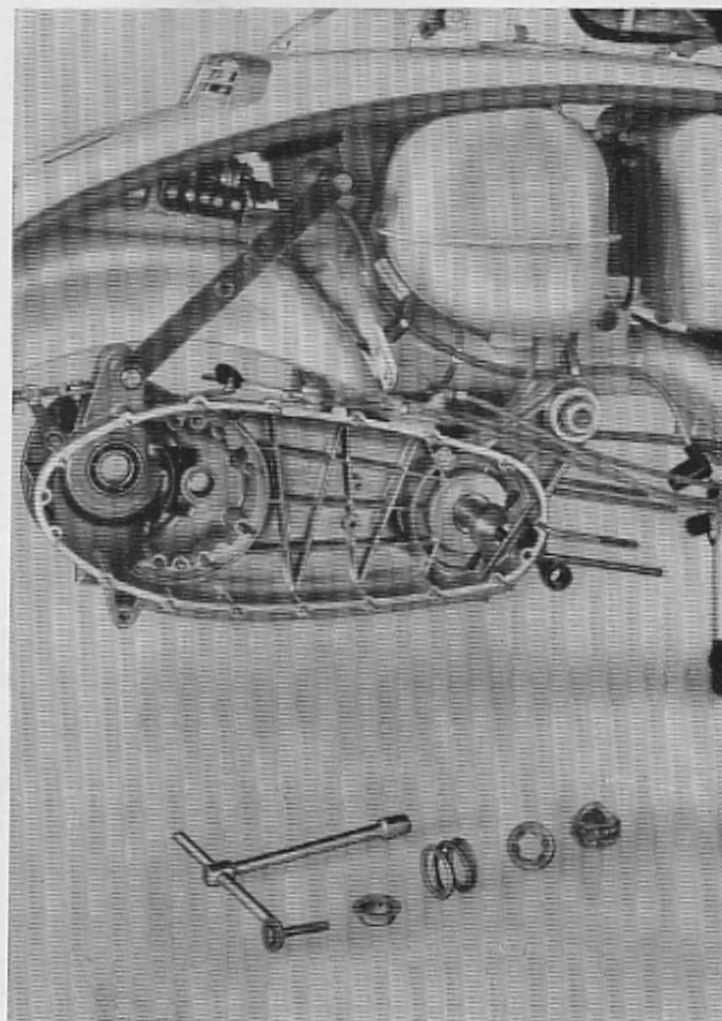

Fig. 19
- 33 To remove engine sprocket shock damper: hold control shaft with Tool No. 49221 fitted to connecting rod, unscrew fixing bolt (14mm spanner) remove washer, spring, splined collar, and sprocket. Then with aid of Extractor No. 60051 extract splined sleeve. See Fig. 19.